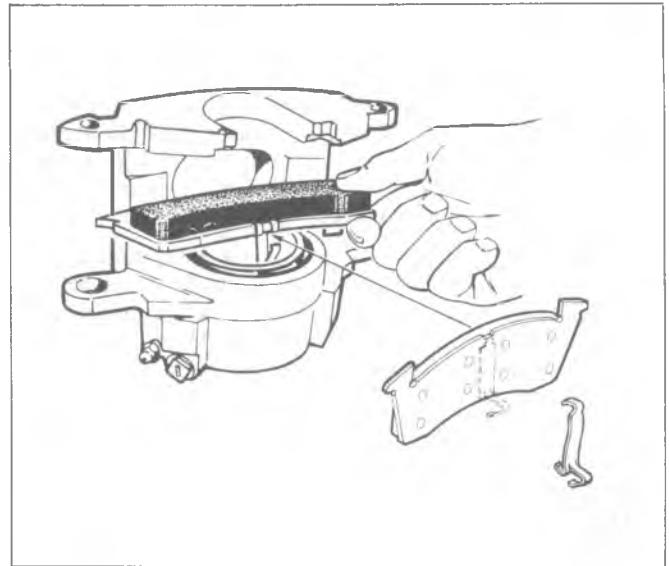

Fig. 31—Installing Support Spring
4. Install the shoe support spring and the "old" shoe in the center of the piston cavity (as shown in Figure 31).